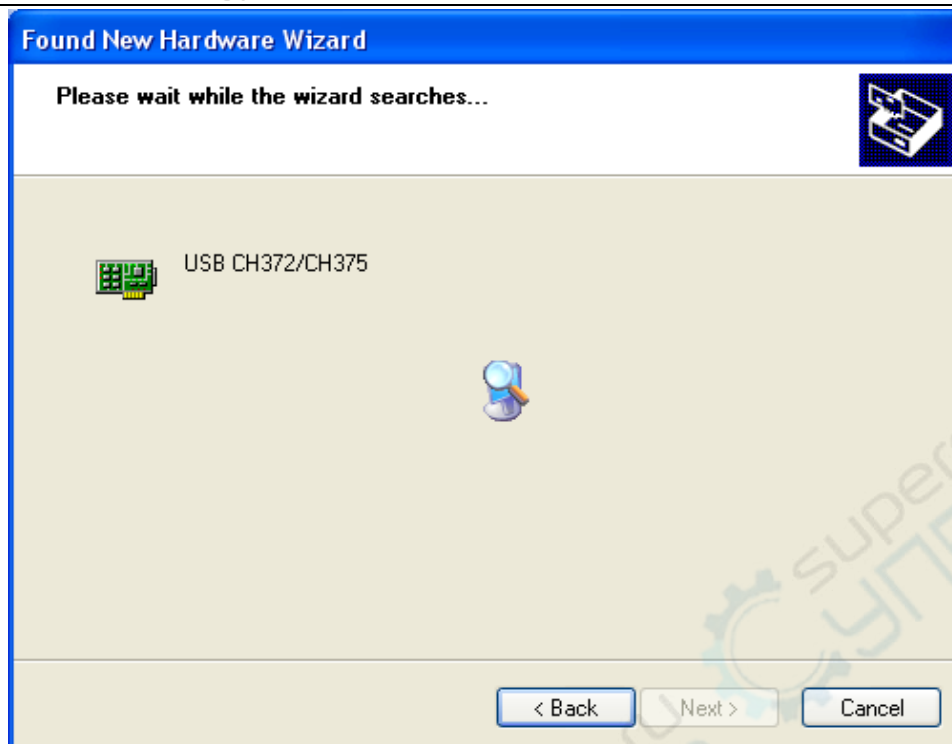

Figure 1-15
3. In the new hardware wizard dialog box in Figure 1-14, select the “Install the software automatically” option, then click **NEXT** to enter the automatic driver search and installation page, as shown in Figure 1-15.
4. As shown in Figure 1-15, the hardware installation wizard of your digital storage oscilloscope begins searching and installing the USB driver for the oscilloscope communication and control software. When installation is complete the dialog box shown in Figure 1-16 pops up.